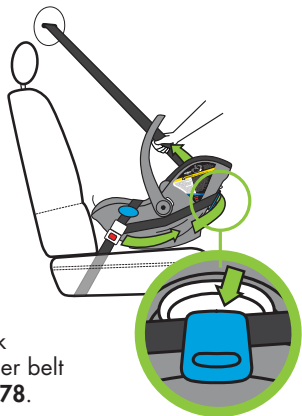

Figure 78
- With one hand firmly holding the shoulder belt so it doesn't retract, wrap the shoulder belt around the back of the Carrier with the other hand, and tuck the shoulder belt into the blue Shoulder Belt Guide, as shown in **Figure 78**.